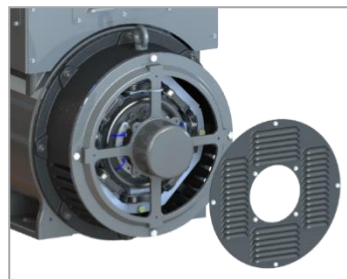

Figure 14.40: Installation of shutter cover
- 7) Perform the PMG electrical connection, according to the instructions and connection diagram shown in item 14.3.2 of this document.
- 8) Install the shutter cover, fastening it through 08 hexagon headed screws M6 with torque of 8 to 10 Nm, according to Figure 14.40.